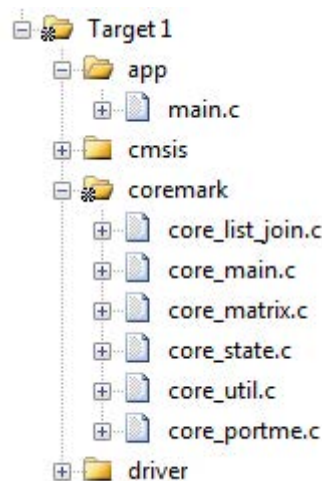

Figure 5. An example project with CoreMark source files on µVision IDE
- 2) Add CoreMark source files (see Figure 5) in your Makefile or preferred IDE (GCC, IAR embedded workbench IDE, Keil µVision IDE).